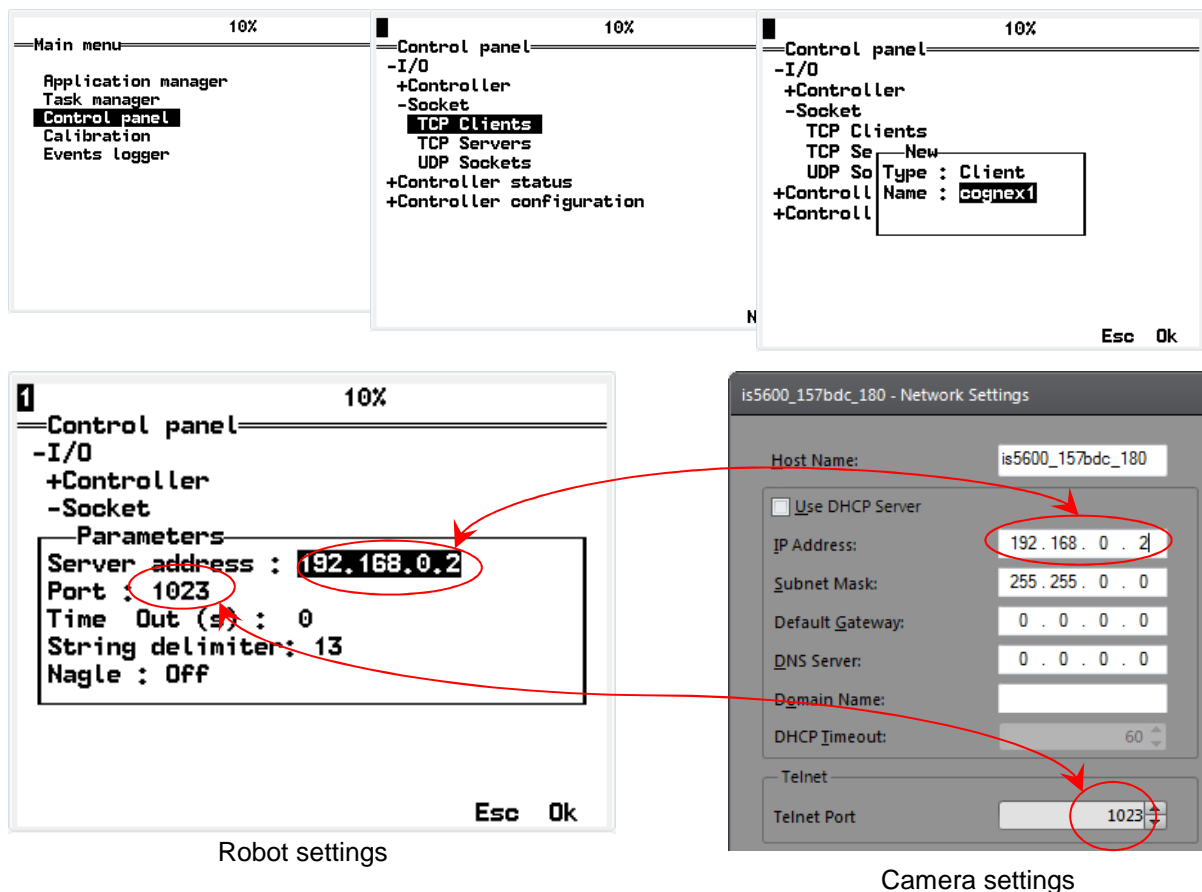

Figure 5.7
- Configure the remaining parameters as shown in the figure 5.7